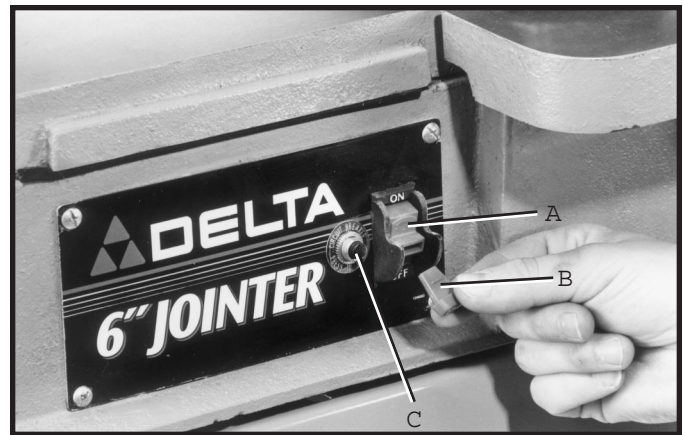

Fig. 24
We suggest when the jointer is not in use, that the switch be locked in the OFF position for safety and to prevent unwarranted use. This can be done by pulling the switch toggle (B) outward as shown in Fig. 24. With the switch toggle (B) removed, the switch (A) will not operate. However, should the toggle switch (B) be removed while the jointer is running, it can be turned off, but cannot be restarted again without inserting the switch toggle (B).
The jointer is equipped with a reset overload relay button (C) Fig. 24. If the motor shuts off or fails to start due to overloading (jointing too deep; working with dull knives; using the jointer beyond its capacity), move the power switch to the off position. Let the motor cool three to five minutes, then push the reset button (C) to reset the overload device. The motor can then be turned on again in the usual manner.